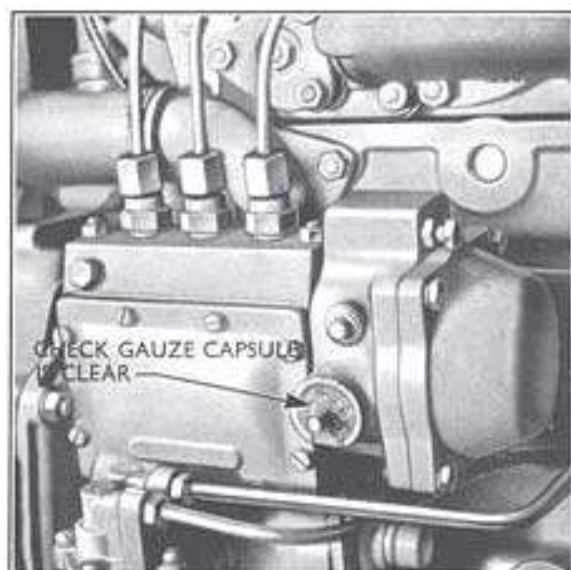

Fig. 5
1. Unscrew the self-locking nut and remove the plate covering the filter capsule (see Fig. 5).